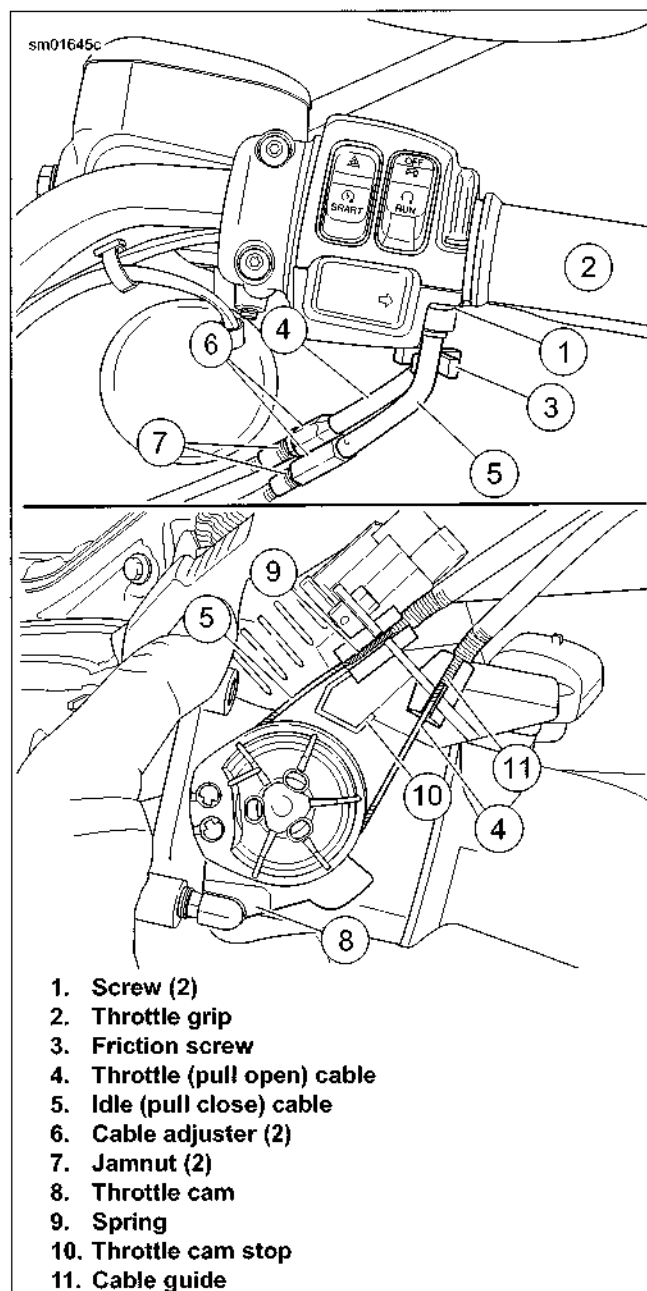

Figure 1-29. Throttle Cable Adjustment
2. See Figure 1-29. Remove screws (1) to separate upper switch housing from the lower housing.
1. See Figure 1-29. Loosen throttle friction screw (3).
2. Slide rubber boot off control cable adjusters (6).
3. Loosen jamnuts (7).
5. Point front wheel straight ahead. With engine OFF, roll throttle grip (2) fully open. Hold in position.
6. Gently turn adjuster (6) on throttle control cable (4) counterclockwise until throttle cam (8) touches throttle cam stop (10). Release throttle grip. Turn adjuster counterclock-